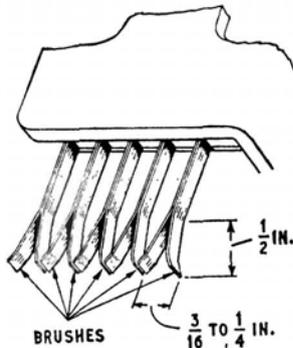

FIG. 4
5. Adjustment of brushes.—The two springs of each pair of brush springs should lie flat against each other from their base to a point $\frac{1}{2}$ in. from the tips. From this point, the tips of the two springs should be set outwards so that there is a space of $\frac{3}{16}$ in. to $\frac{1}{4}$ in. between the tips (see Fig. 4). Each pair of brushes should be at right-angles to their mountings.